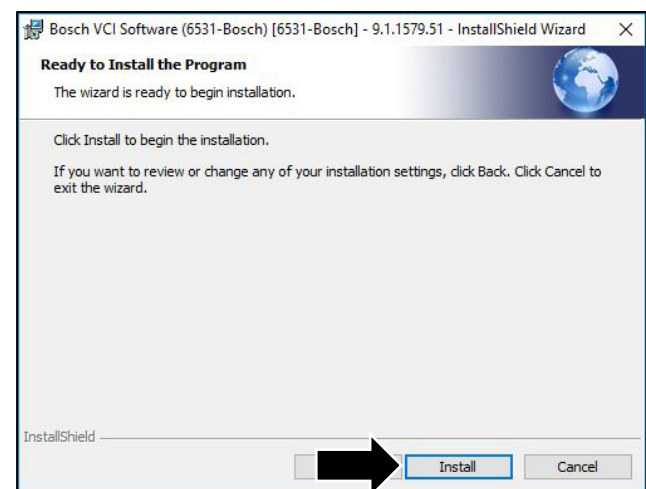

Figure 5
6. Click "Install" to begin the installation (refer to Figure 5).